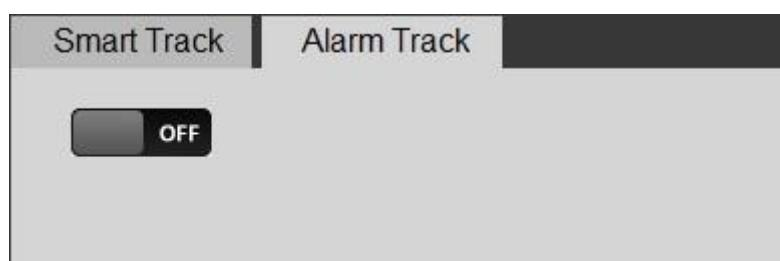

Figure 5-1
Step 1 Select “**Setup > Event > Smart Track > Alarm Track**”, and the system will display the interface of **Alarm Track**, which is shown in Figure 5-1.